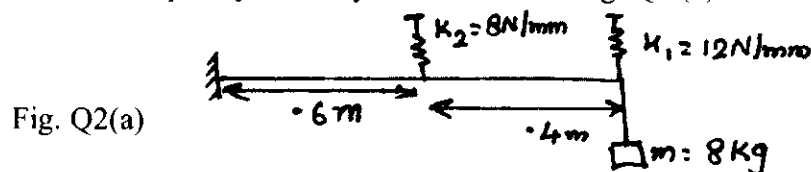

Fig. Q2(a)
- b. Find the natural frequency for system shown in Fig. Q2(b).